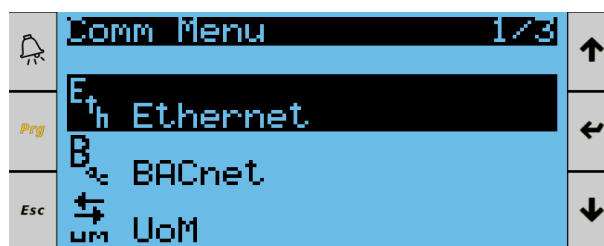

Figure 88. Settings Menu, Communications Sub-Menu
26. Return to the Communications Menu shown in **Figure 88** below and select UoM.